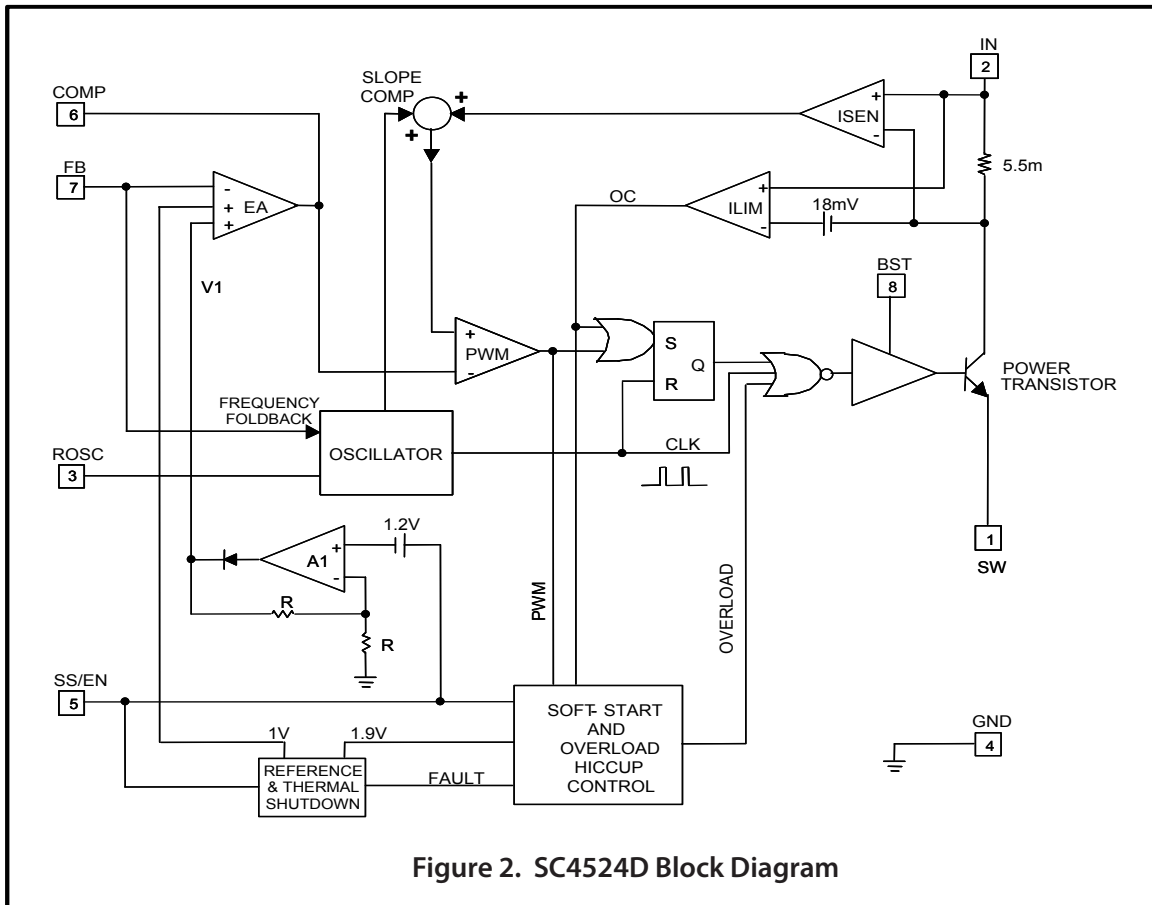

Figure 2. SC4524D Block Diagram
As shown in Figure 2, the switch collector current is sensed with an integrated 5.5mΩ sense resistor. The sensed current is summed with a slope-compensating ramp before it is compared with the transconductance error amplifier (EA) output. The PWM comparator trip point determines the switch turn-on pulse width. The current-limit comparator ILIM turns off the power switch when the sensed signal exceeds the 18mV current-limit threshold.
The error amplifier EA in Figure 2 has two non-inverting inputs. The non-inverting input with the lower voltage predominates. One of the non-inverting inputs is biased to a precision 1V reference and the other non-inverting input is tied to the output of the amplifier A_1 . Amplifier A_1 produces an output $V_1 = 2(V_{SS/EN} - 1.2V)$. V_1 is zero and COMP is forced low when $V_{SS/EN}$ is below 1.2V. During start up, the effective non-inverting input of EA stays at zero until the soft-start capacitor is charged above 1.2V. Once $V_{SS/EN}$ exceeds 1.2V, COMP is released. The regulator starts to switch when V_{COMP} rises above 0.4V. If the soft-start interval is made sufficiently long, then the FB voltage (hence the output voltage) will track V_1 during start up. $V_{SS/EN}$ must be at least 1.83V for the output to achieve regulation. Proper soft-start prevents output overshoot. Current drawn from the input supply is also well controlled.
becomes armed. As the load draws more current from the regulator, the current-limit comparator ILIM (Figure 2) will eventually limit the switch current on a cycle-by-cycle basis. The over-current signal OC goes high, setting the latch B₃. The soft-start capacitor is discharged with (I_D - I_C) (Figure 3). If the inductor current falls below the current limit and the PWM comparator instead turns off the switch, then latch B₃ will be reset and I_C will recharge the soft-start capacitor. If over-current condition persists or OC becomes asserted more often than PWM over a period of time, then the soft-start capacitor will be discharged below 1.9V. At this juncture, comparator B₄ sets the overload latch B₂. The soft-start capacitor will be continuously discharged with (I_D - I_C). The COMP pin is immediately pulled to ground. The switching regulator is shut off until the soft-start capacitor is discharged below 1.0V. At this moment, the overload latch is reset. The soft-start capacitor is recharged and the converter again undergoes soft-start. The regulator will go through soft-start, overload shutdown and restart until it is no longer overloaded.
The PWM latch in Figure 2 is reset every cycle by the clock. The clock also turns off the power transistor to refresh the bootstrap capacitor. This minimum off time limits the attainable duty cycle of the regulator at a given switching frequency. The measured minimum off time is 100ns typically. If the required duty cycle is higher than the attainable maximum, then the output voltage will not be able to reach its set value in continuous-conduction mode.